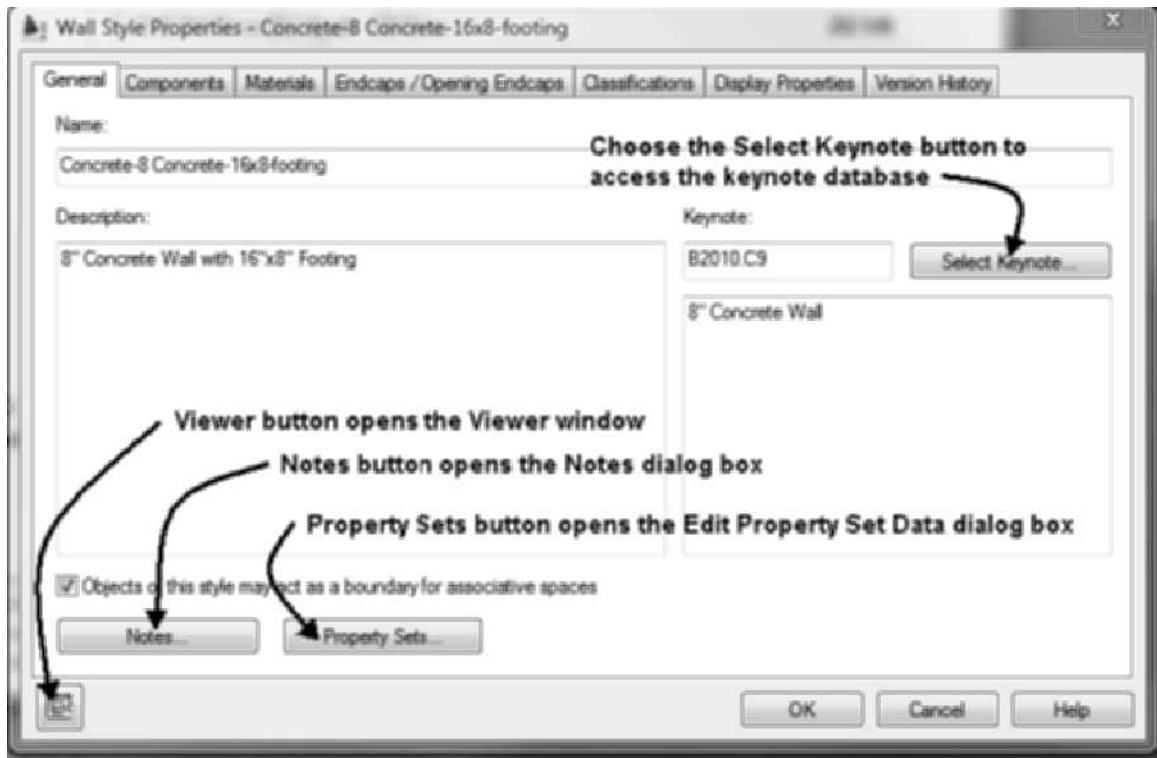
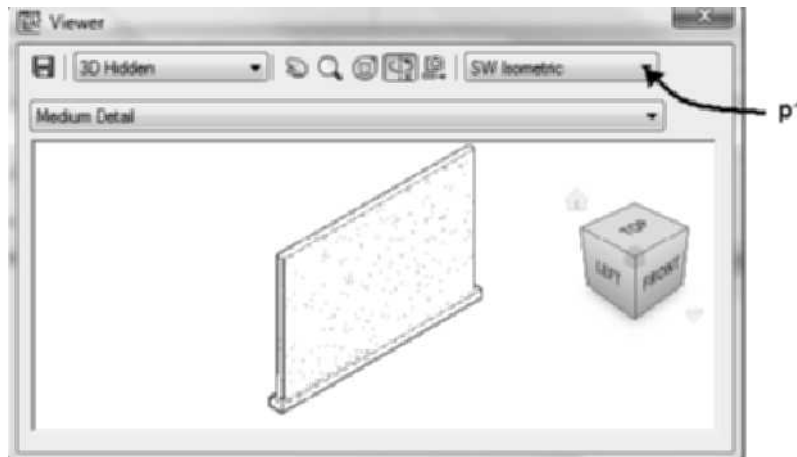

FIGURE 3.10 General tab of the Wall Style Properties dialog box
FIGURE 3.11 Wall displayed in the Viewer
To edit a wall style, select the wall and choose **Edit Style** from the **General** panel of the **Wall** contextual tab; the **Wall Style Properties** dialog box opens as shown in Figure 3.10. The **Wall Style Properties** dialog box is identical in content to the right pane of the **Style Manager**. The right pane of the **Style Manager** or the **Wall Style Properties** dialog box consists of the following tabs: **General**, **Components**, **Materials**, **Endcaps/Opening Endcaps**, **Classifications**, **Display Properties**, and **Version History**. Note that the **Version History** tab is not displayed for new styles. The **Version History** tab is created and utilized to track style versions during project synchronization, which will be discussed in Chapter 10. A description of the options in each tab of the **Wall Style Properties** dialog box is explained in the following tutorial.
4. Choose the **General** panel. The **Keynote** field shown in Figure 3.10 lists the metric or imperial keynote. Choose the **Select Keynote** button to display the **Select Keynote** dialog box. The keynote database file includes a list of keynotes. Choose **OK** to dismiss the **Select Keynote** dialog box.
5. You may choose the **Property Sets** button of the **General** tab shown in Figure 3.10 to open the **Edit Property Set Data** dialog box. This dialog box allows you to edit or add the property sets associated with a wall style. Property data are used to develop schedules from the drawing and will be presented in Chapter 11. Click **OK** to dismiss the **Edit Property Set Data** dialog.
7. Choose the **Viewer** button located in the lower-left corner as shown in Figure 3.10 to preview the wall style. The **Viewer** is shown in Figure 3.11. Choose **SW Isometric** from the **View** flyout at p1 to view the wall in pictorial. Choose the **X** in the upper-right corner to close the **Viewer**.